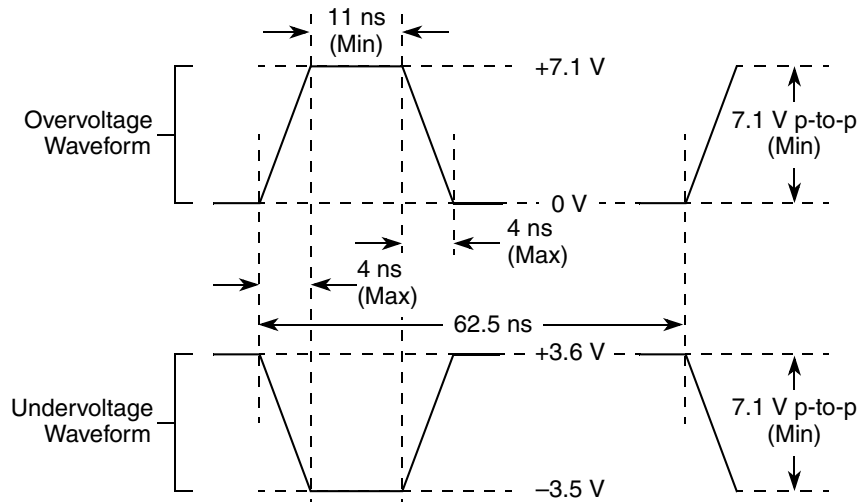

Figure 3. Maximum AC Waveforms on PCI Interface for 3.3-V Signaling
- ⁶ OV_{IN} on the PCI interface can overshoot/undershoot according to the PCI Electrical Specification for 3.3-V operation, as shown in Figure 3.
Figure 3 shows the undershoot and overshoot voltage of the PCI interface of the MPC8349EA for the 3.3-V signals, respectively.